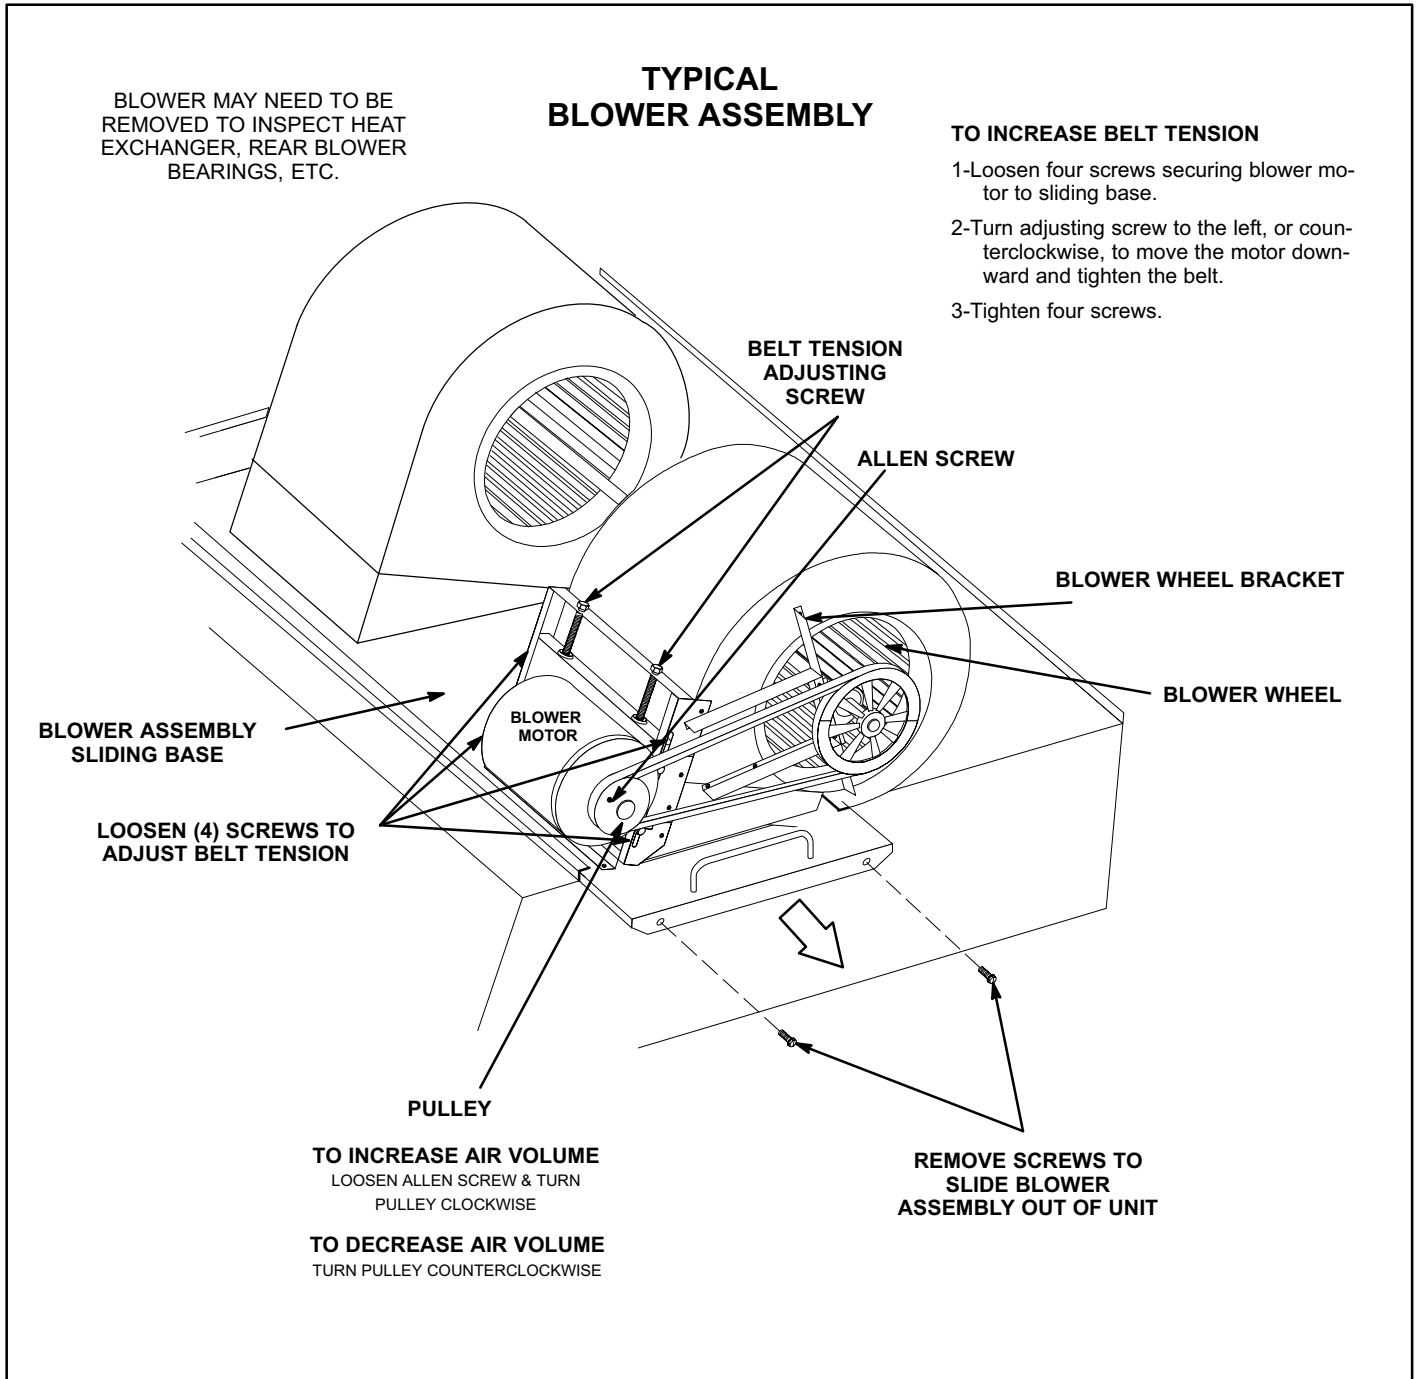

FIGURE 14
The blower compartment in all LGA/LCA/LHA units is located between the evaporator coil and the compressor / control section on the opposite side of the condenser coil. The blower assembly is accessed by disconnecting the blower motor jack plug J98/P98 (and all other plugs) and removing the screws on either side of the sliding base. The base pulls out as shown in figure 14.
- 5- The RPM can be adjusted at the motor pulley. Loosen Allen screw and turn adjustable pulley clockwise to increase RPM. Turn counterclockwise to decrease RPM. See figure 14.
See figure 14.